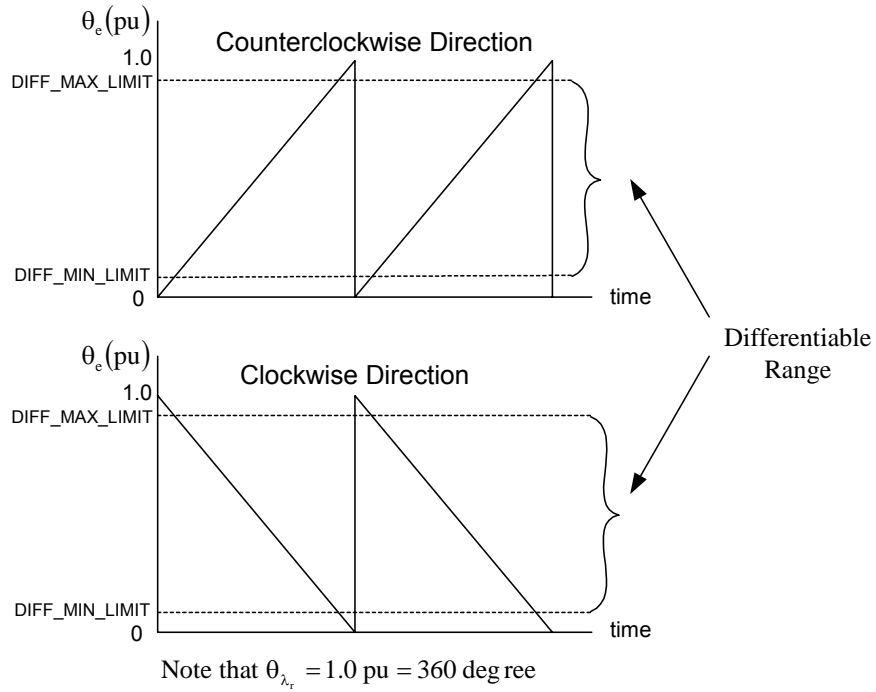

Figure 1: The waveforms of rotor position in both directions
The typical waveforms of the electrical rotor position angle, θ_e , in both directions can be seen in Figure 1. Assuming the direction of rotation is not available. To take care the discontinuity of angle from 360° to 0° (CCW) or from 0° to 360° (CW), the differentiator is simply operated only within the differentiable range as seen in this Figure. This differentiable range does not significantly lose the information to compute the rotor speed.